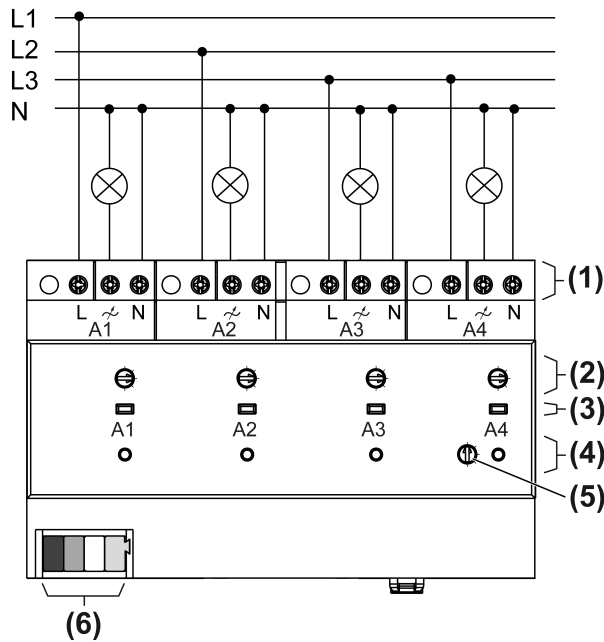

Figure 2: Connection example of outputs
- Connect loads as shown in the connection example (Figure 2)